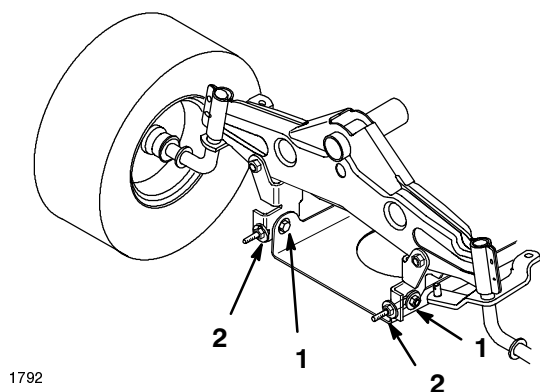

Figure 57
6. To adjust front-to-rear blade slope loosen front pivot plate mounting bolts slightly (Fig. 57).
7. Rotate lock nuts on eyebolts to change adjustment (Fig. 57). To raise the front of the mower tighten the eyebolt lock nuts. To lower the front of the mower loosen the eyebolt lock nuts.
8. After adjusting both eyebolt lock nuts evenly, check the front-to-rear slope again. Continue adjusting eyebolts until the front blade tip is 0-5/16" (0-8 mm) lower than the rear blade tip (Fig. 57).
9. When front-to-rear slope is correct, tighten the pivot plate mounting bolts (Fig. 57).